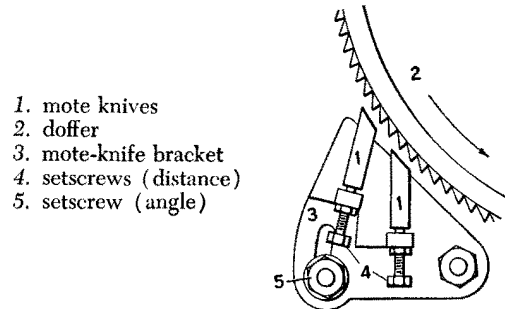

FIG. 13. MOTE-KNIFE ASSEMBLY
44. In most settings you have to consider only one problem: to find the right distance between two parts. While there are some ancient cards in which the mote knives too are only adjustable for distance, modern cards have the mote knives arranged so that the angle can also be adjusted, more or less as shown in Fig. 13. The mote knives are held in a bracket below the lickerin. An adjusting screw permits each knife to be raised or lowered, so you can set the knives at the proper distance from the lickerin. Another setscrew in a slot of the bracket permits you to set the knives at any desired angle to the lickerin. As you'll see, this angle is important.